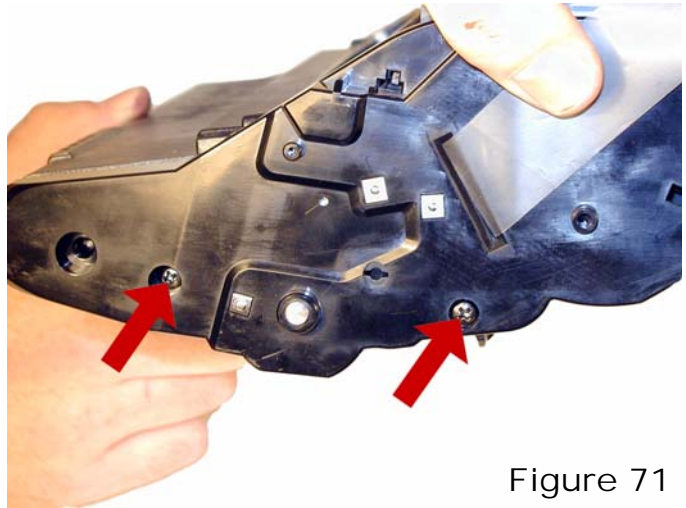

Figure 71
64) Install the two screws into the left side end cap. See **Figure 71**